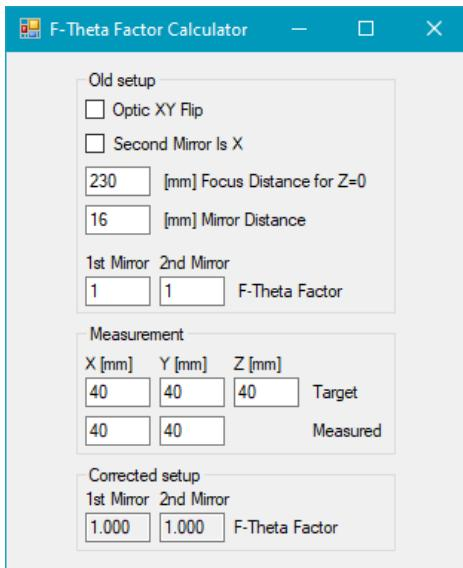

Figure 87: F-Theta Factor Calculator.
- Marking result from temporary lookup table: Insert the values of *Scanner height* and of the *Best marked line* for all valid marked target heights. The *Best marked line* must be read out from the marking result. The marking result consists of several lines corresponding to different z-values. Look for the line which is best in focus, meaning sharply marked and in the middle of the marked lines. Towards the edges, the lines should become less sharp and lighter. See figure 87 for illustration. Skip *Best marked line* values, which are very close to the limits of the Z range of the temporary linear lookup table.